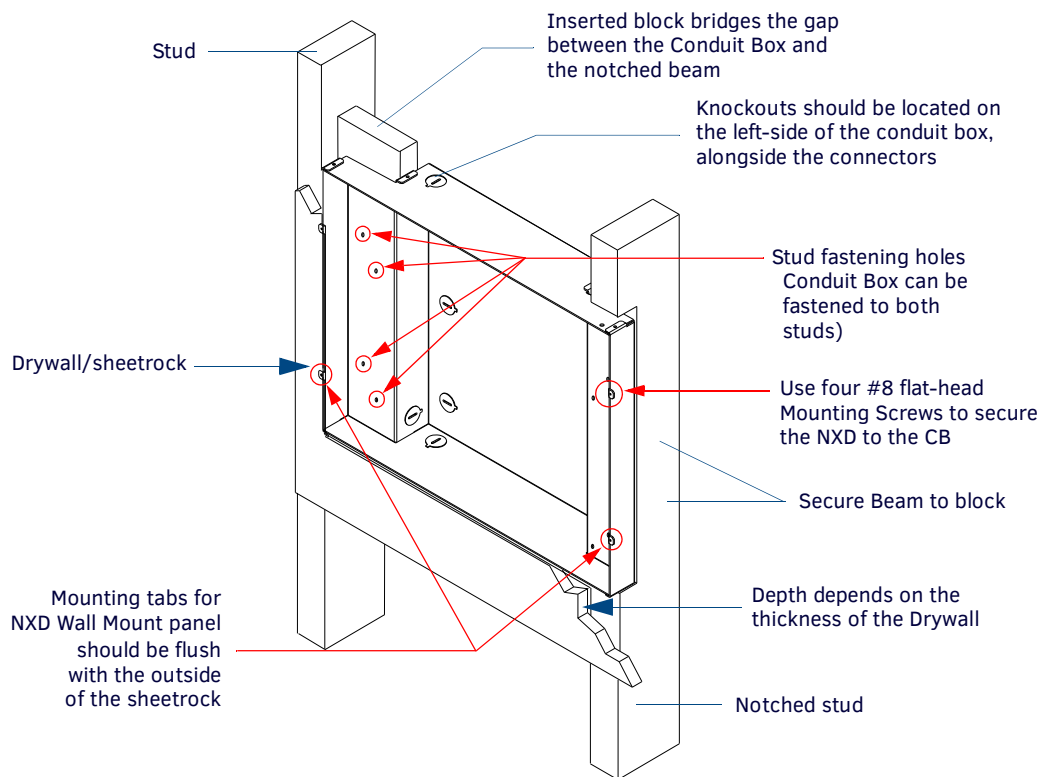

FIG. 55 Screw locations for conduit box attachment in a pre-wall installation
6. Fasten the CB-TP17 to the **Notched stud/beam** through the stud fastening holes, located on the inside of the conduit box (FIG. 55), by using either nails or screws.
8. Secure the perpendicular block to the **Non-Notched stud/beam** (FIG. 55) by using either nails or screws.
9. Fasten the CB-TP17 to the **block** through the stud fastening holes, located on the inside of the Conduit Box (FIG. 55), by using either nails or screws.
10. Remove any necessary wiring knockouts from the (optional) conduit box (CB-TP17) (FIG. 55) where the necessary cables are threaded through for connection to the touch panel.